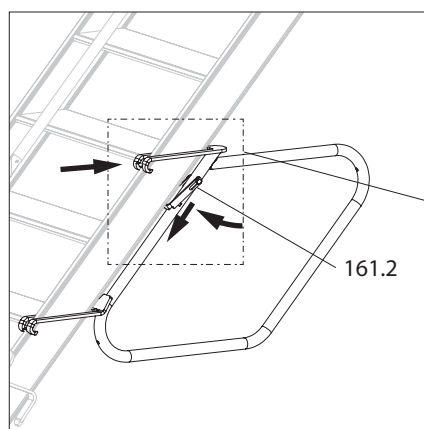

Fig. A8.07c
3. Swing out the locking pin (161.2) and pull it down between the stair tower and the stair guardrail. (Fig. A8.07c + A8.07d)